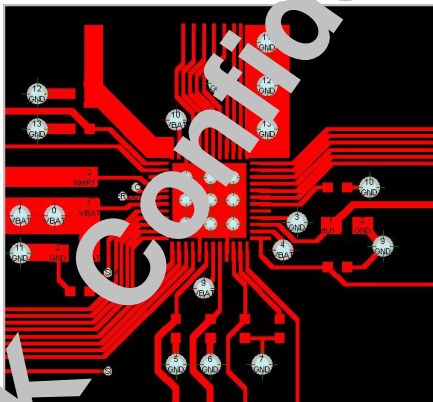

Figure 4. Top Layer of reference PCB Layout
7. Fig4. is the reference PCB layout. The thermal pad is attached to the die substrate. The thermal planes with vias which attach to the package **must be connected to GND.**